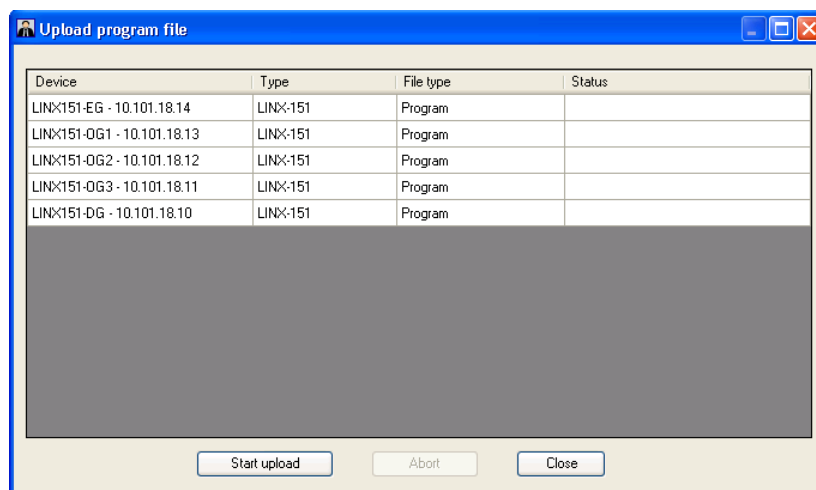

Figure 212: Upload Program File Dialog
3. The **Upload program file dialog** opens as shown in Figure 212. This dialog displays a list of devices and the program files which will be uploaded. To start the upload, press the **Start upload** button.